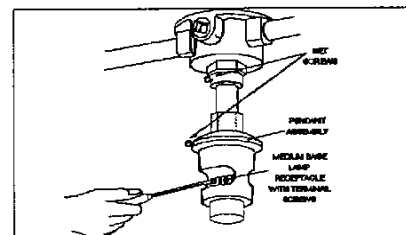

Figure 1.
2. Install pendant assembly on conduit as shown in Figure 1 for 12X-HZP or wall bracket as shown in Figure 5 for 12X-HZB.